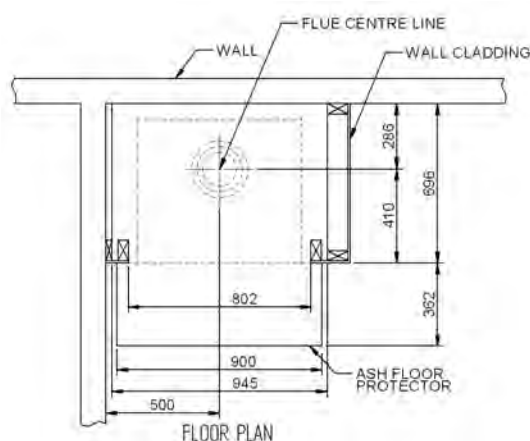

Fig. 3
1. Inspect the house construction at the proposed installation position to verify that the flue casing (250mm diameter, plus 12mm clearance all around) can pass right up through the ceiling space without requiring the removal of essential roof or ceiling support beams. The flue centerline will be 286mm from the rear wall and it must be at least 500mm distant from any side wall. (See Fig. 3).